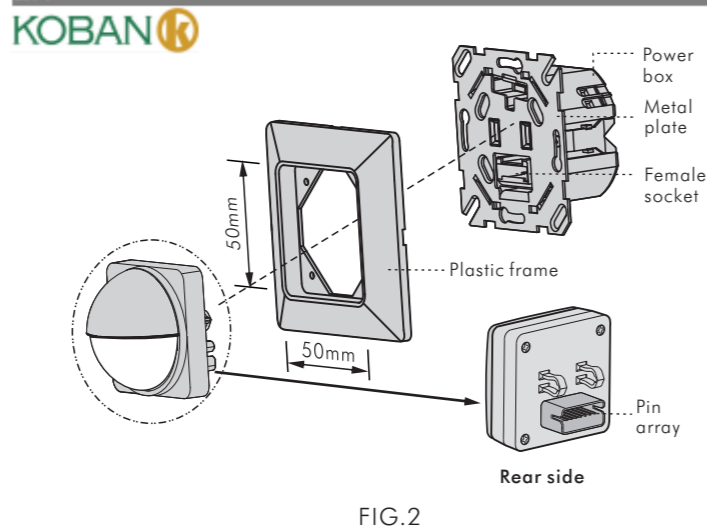

FIG.2
2.3 Decomposed pattern (See FIG.2)
FIG.2 shows the individual part of KDP DALI-04. The internal size of plastic frame is 50 x 50mm which can replace European standard plastic frame directly.
- 3.4.1.5 Put the detector head and the plastic frame together, then insert the combination of detector head and plastic frame into the power box by means of hook aiming at the notch. Please ensure the pin array and female socket are well fixed (See FIG.2).